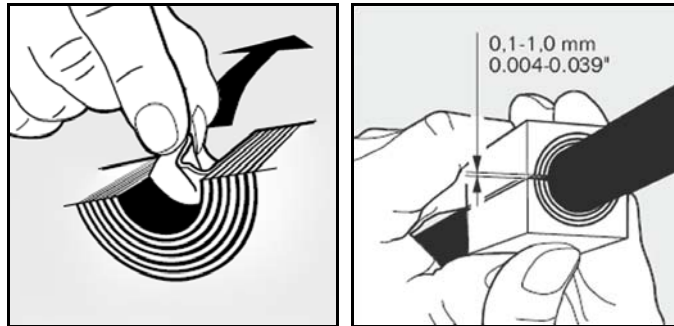

Figure 9-6. Adapting a Module to the Cable Size, Checking the Gap
- These are dense foam blocks surrounding pre-cut half-sleeves that can be peeled away to match the diameter of the cable to be sealed. See **Figure 9-6**.